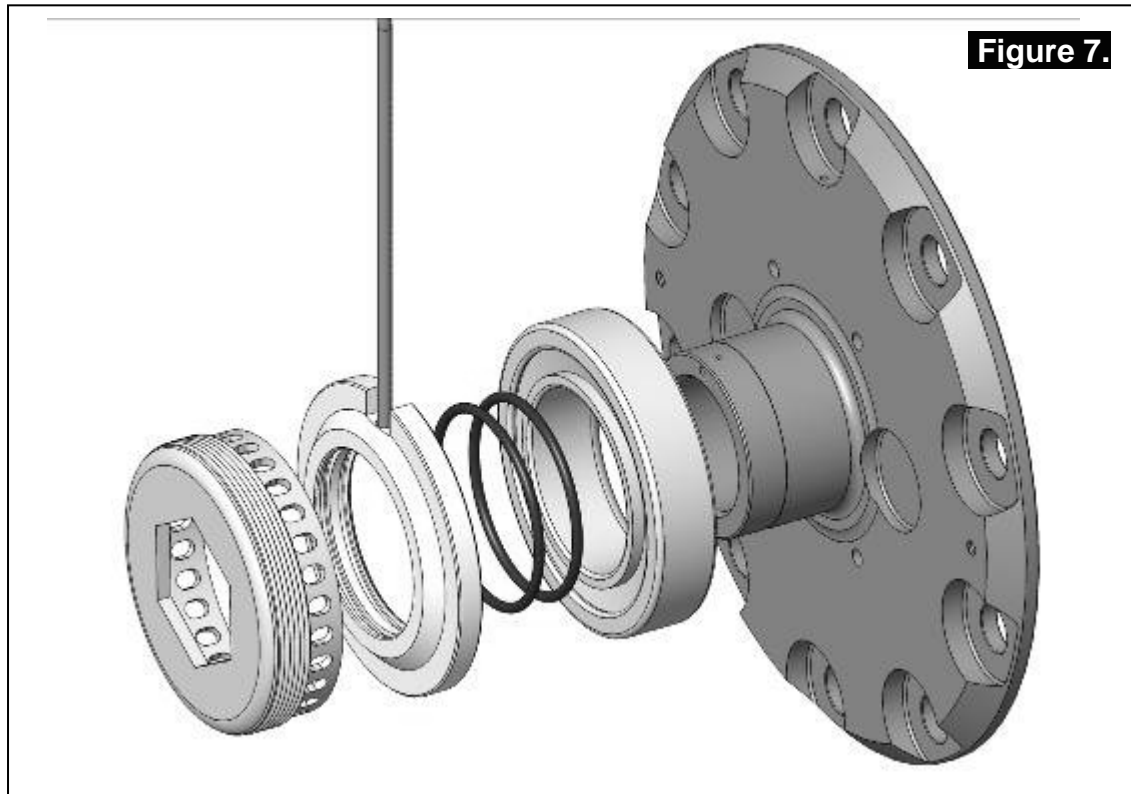

Figure 6.
- Mark a spot on the top of the outside of the differential housing that will be clear of the ring gear position once the seal housing tube has been installed. (Fig.6.)